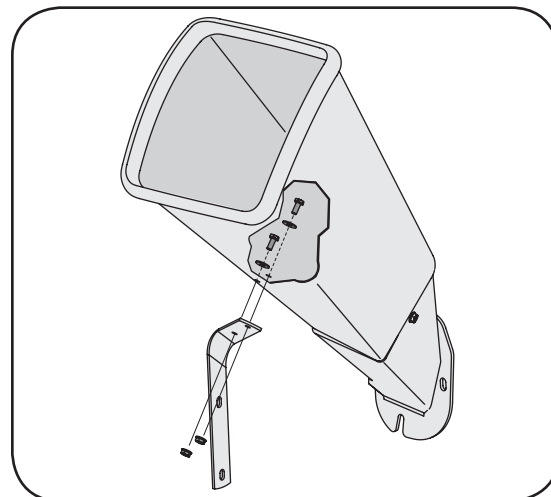

Figure 3-3
3. Loosen, but do not remove, the two hex bolts, flat washers, and flange nuts which are secured to the support bracket. See Figure 3-3.